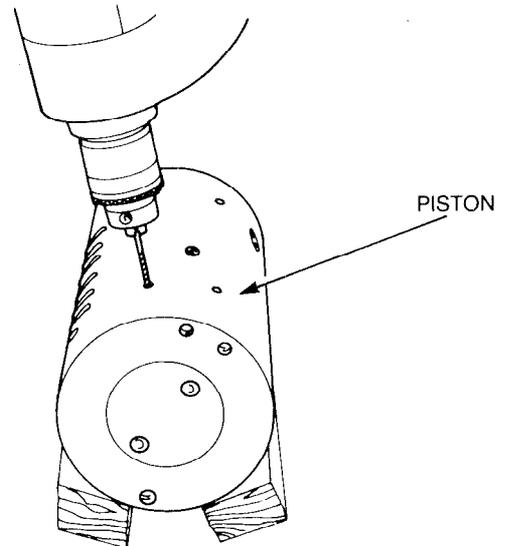

Figure 301 — Piston Plug Lock Pin — Removal
- g. Remove both piston plug lock pins using a 2.5 mm (3/32 in.) drill (see Fig. 301) to drill out the pins.